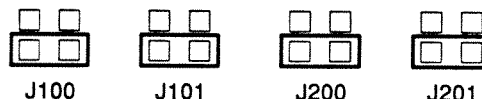

Figure 4: Input Level Jumpers
- B. To operate the input with  $-10\text{dBV}$  nominal levels, reposition jumpers JA, JB, JC, and JD on the main circuit board to the  $-10$  position (see Figure 4).